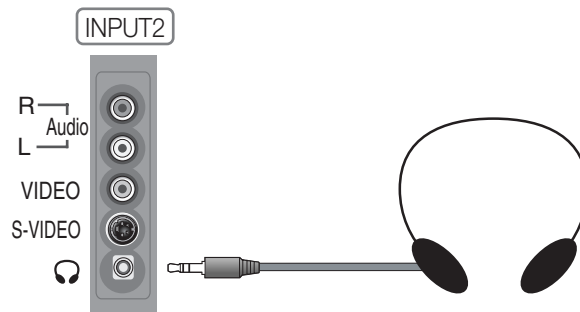

Figure 3-7. Connecting Headphones
- Connecting Headphones** ➤ You can connect a set of headphones to the Crystal Series LCD to watch a program without disturbing others. Connect them to the headphone output located at INPUT2; see Figure 3-7.